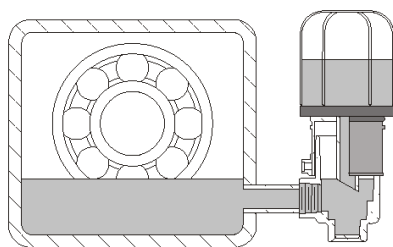

Figure 7. Constant Level Oiler
***Constant Level Oiler.** If equipped with a constant level oiler, fill reservoir with oil, place thumb over spout, invert and screw reservoir into upper casting. Allow reservoir to empty, filling the bearing frame (Figure 7). Several fillings of the reservoir may be required before the actual oil level is reached. To avoid adding too much oil, never finish filling oil in bearing frame (19) through the vent breather (45) at top of the bearing frame. Never use lower casting only as a fill spout, always fill thru reservoir. When oil level is reached, no more oil will run out of the reservoir bottle. Use constant level oiler's glass sight to check oil level in bearing frame. When oil level is reached tighten the three setscrews on the side of the upper oiler. The constant level oiler (143) should be topped up as required during operation.